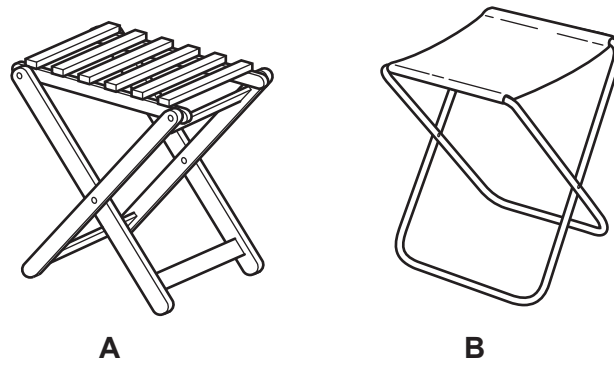

Fig. 8.1
- 8 Fig. 8.1 shows two camping stools, **A** and **B**.